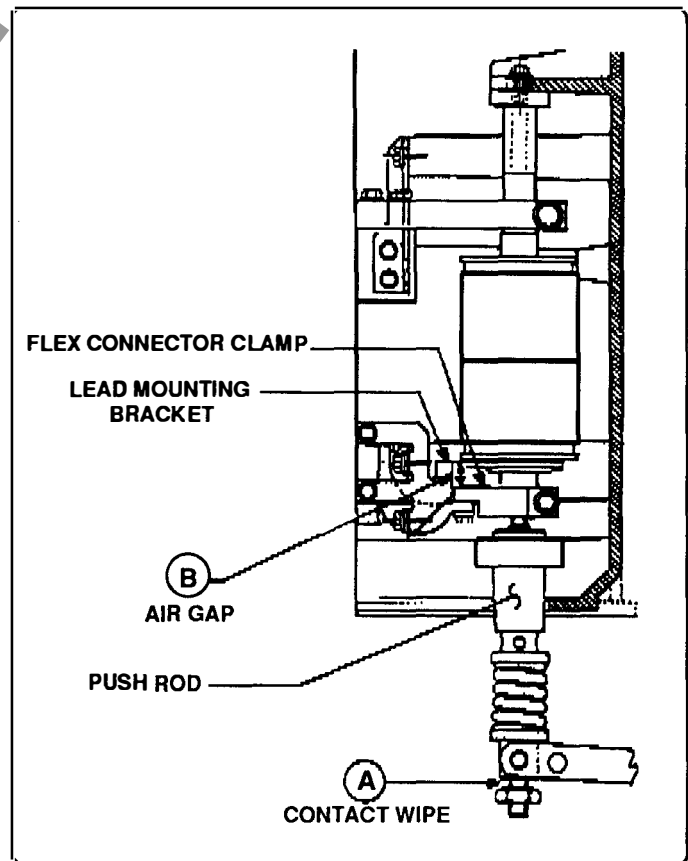

Fig. 3 - Contact Pressure
3. Contact Wipe (contact pressure) Check (See Fig. 3). The contact air gap and contact wipe is set at the factory by setting the vertical position of the interrupter (1) and the vertical position of the pushrod (2). These parts should not be repositioned in the field unless a pushrod change is required to correct contact sequence as described elsewhere. Contact wipe is set at the factory at .093 minimum. Contact erosion and wear in mechanical parts will cause a reduction in contact wipe over the life of the breaker and a check should be made to insure that the wipe is not less than .020". The measurement is made as follows for the three poles:
4. Contact Air Gap Check (See Fig. 3). The contact air gap is set at the factory at the nominal dimension of .40. This value will normally increase as the contacts erode. A check of the contact air gap checks that the breaker does open fully and that the gap is sufficient to withstand the applied voltage. The measurement is made as follows for the three poles.
5. Contact Sequence Check (See Fig. 3). All three poles should touch within 2 millisecond at normal closing speeds. An oscilloscope, oscillograph or other timing method may be used to establish the 2 millisecond timing.